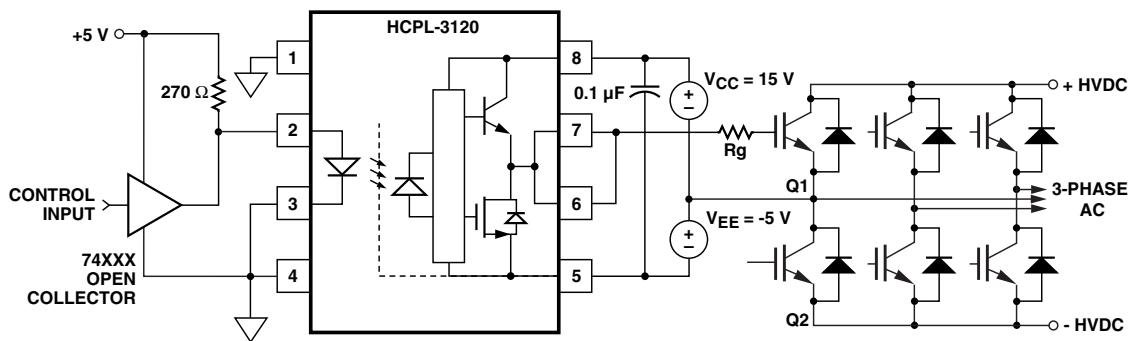

Figure 26. HCPL-3120 typical application circuit with negative IGBT gate drive.
Step 1: Calculate Rg Minimum from the IOL Peak Specification. The IGBT and Rg in Figure 26 can be analyzed as a simple RC circuit with a voltage supplied by the HCPL-3120.
For the circuit in Figure 26 with IF (worst case) = 16mA, Rg = 8Ω, Max Duty Cycle = 80%, Qg = 500 nC, f = 20 kHz and TA max = 85 °C: